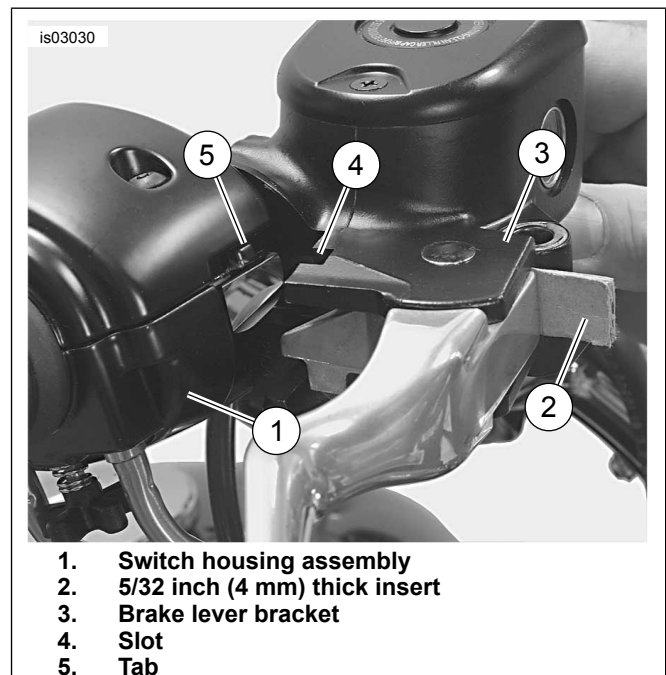

Figure 6. Fitting Brake Lever/ Master Cylinder to Right Handlebar Switch Housing
6. See Figure 6. Position the brake lever/ master cylinder assembly inboard of the switch housing assembly (1), engaging the tab (5) on the lower switch housing in the slot (4) at the top of the brake lever bracket (3).